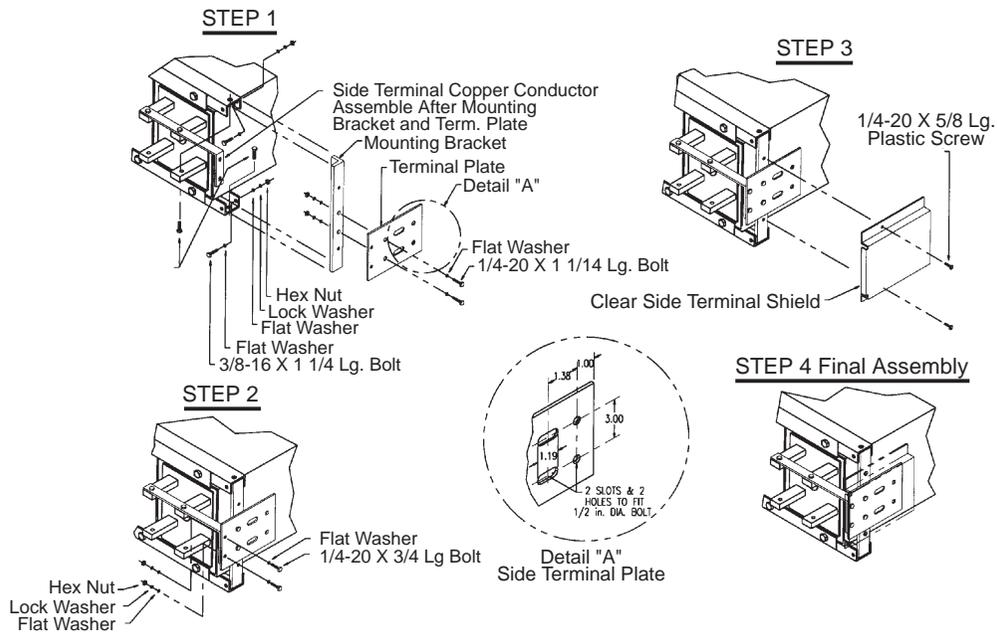
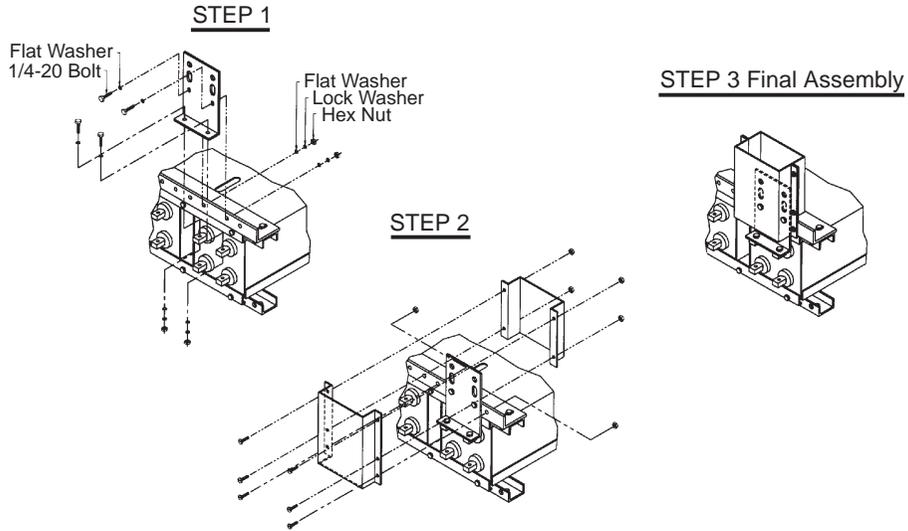

Figure 6-8: Side Terminal Assembly
Figure 6-9: Top Terminal Assembly
1. Attach the terminal mounting bracket to the module frame. For side terminal assembly, follow Steps 1 through 4 in Figure 6-8; for top terminal assembly, see Figures 6-9 (Steps 1 through 3) and 6-10.